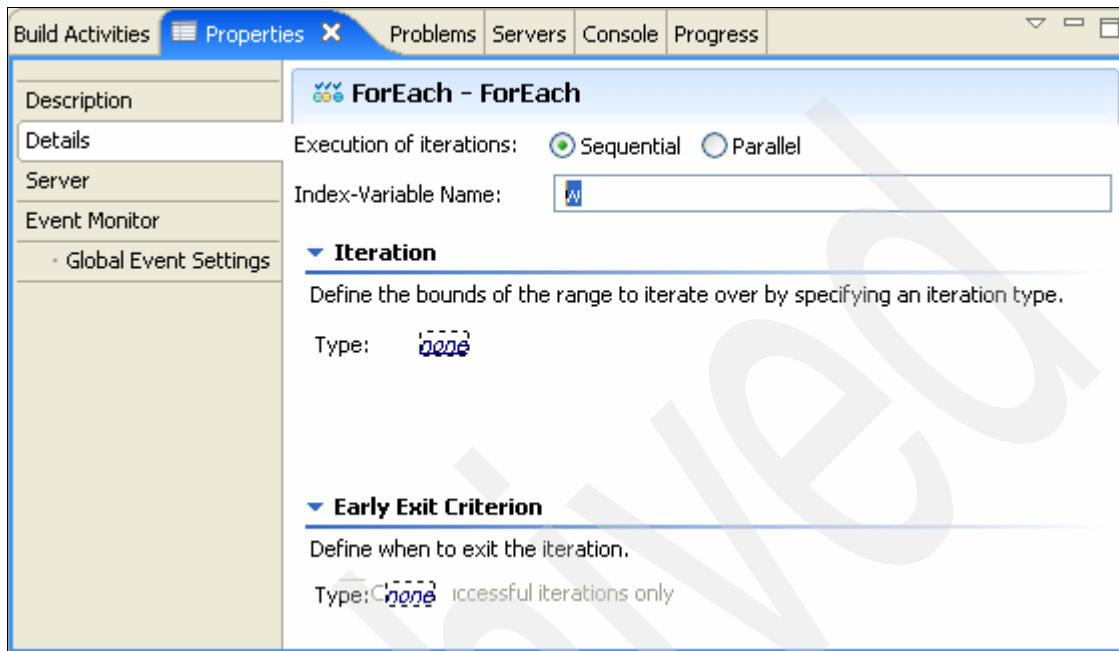

Figure 3-190 Set the Index-Variable Name of a ForEach
4. Change the Index-Variable Name from the default (Index) to w as shown in Figure 3-190.